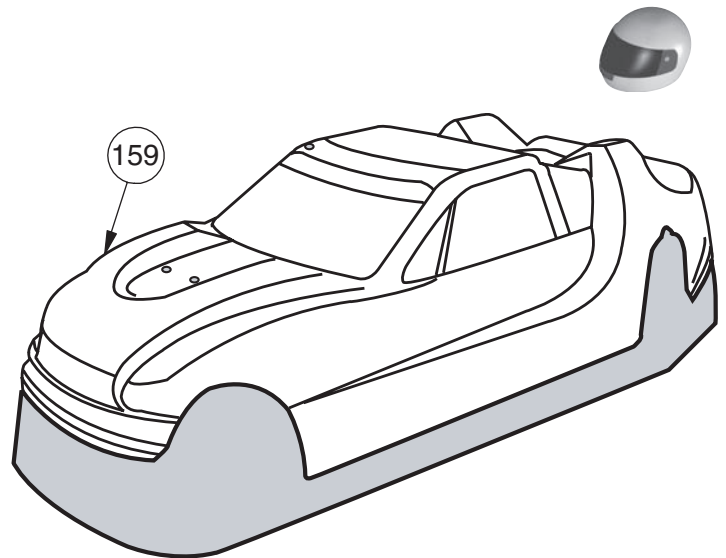

Figure 62
- ❑ 1. After Painting, trim the Body (159) along the trim lines (as shown in Figure 62, emphasized by the dark shading), there is an indented trim line around the body which can be used as a guide for trimming.